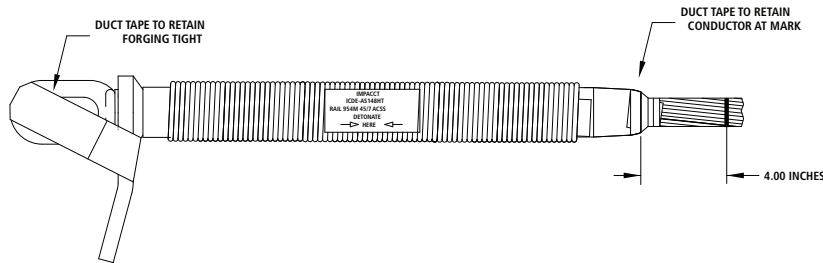

Fig. 7
- The "Steel Forging" assembly must remain tight against the aluminum strands prior to detonation. (**Reference: Steps 5 and 6.**) To maintain a tight assembly: use "Duct Tape" to secure. Wrap onto "Steel Forging" and Dead End Body tongue, to hold forging tight against "Felt Washer" and end of barrel. Then wrap onto end of barrel, then conductor, to hold conductor tight within assembly. **See Fig. 7.** Measure from end of the Barrel to 4 inch "Mark" to ensure the conductor has not pulled out.